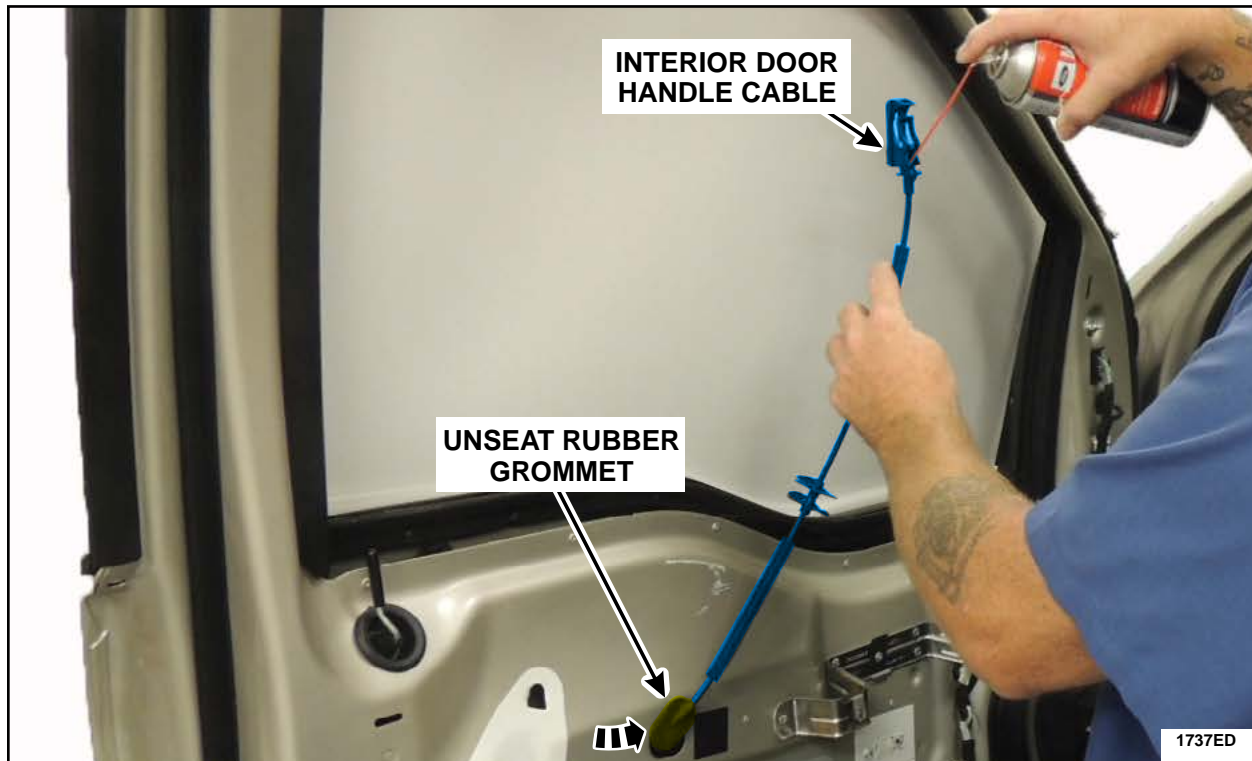

FIGURE 39
12. Unseat the interior door handle cable rubber grommet and while holding the end of the cable in an upward position, spray Motorcraft® XL-6 Lubricant down into the cable for five seconds. See Figure 39.